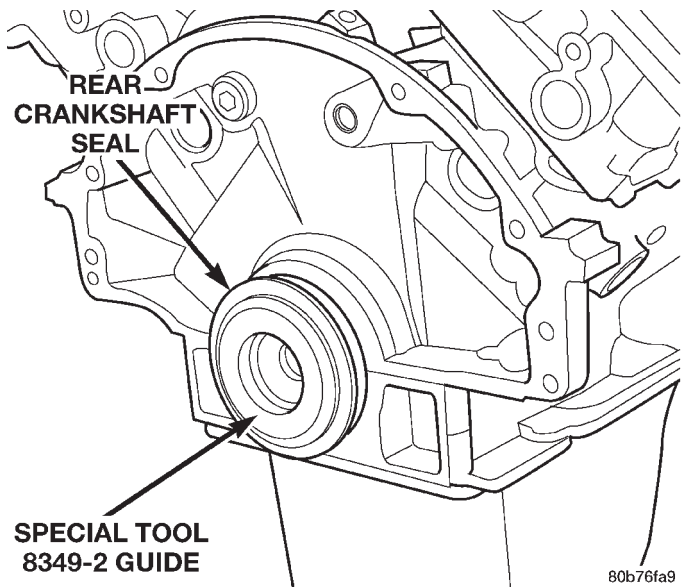

Fig. 113 Crankshaft Rear Oil Seal Guide Special Tool 8349-2 and Oil Seal
(1) Position the magnetic seal guide Special Tool 8349-2 (Fig. 113) onto the crankshaft rear face. Then position the crankshaft rear oil seal onto the guide.